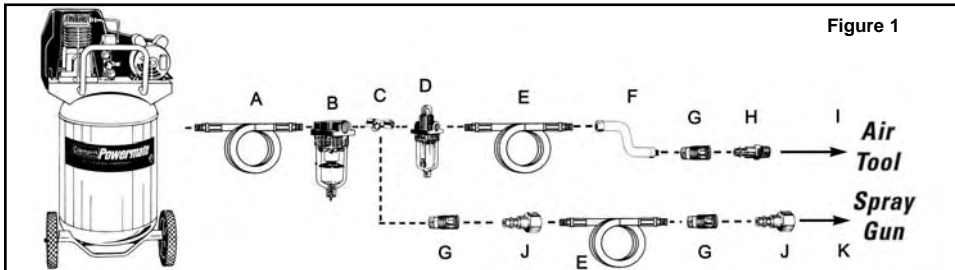

Figure 1
- Connect the tool to the air hose quick coupler. **NOTE: It is recommended that a whip hose with a swivel (P012-0079SP - not included) be used to prevent twisting, kinking, and excessive wear to the air hose (see figure 1 for recommended connections).**
To maintain the maximum performance of the air tool, it must be lubricated each time it is used. Dust, dirt, rust and oil residue will build up inside the tool and reduce the performance. An in-line oiler is recommended for proper automatic tool lubrication (see Figure 1). If an in-line oiler is not available, the tool can be lubricated manually through the inlet port (see Figure 7).